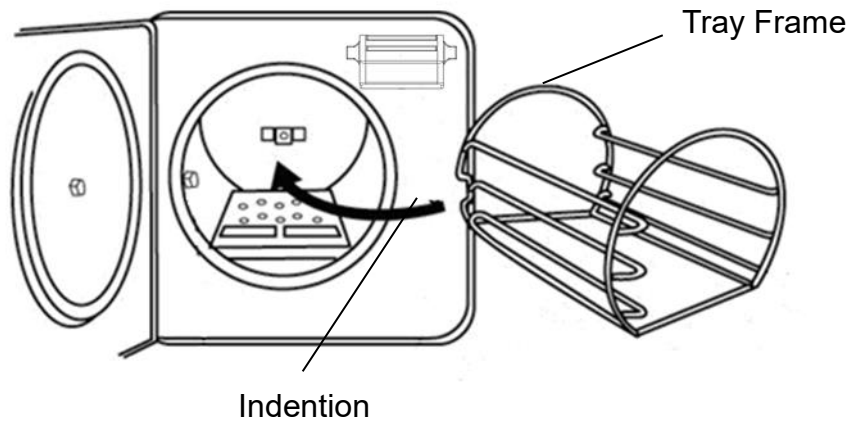

Figure 30
D. Install the tray frame as Figure 30 (optional accessory).
CAUTION: The frame should be installed as Figure 30 below. The indentation of the frame will pass the bushing in the chamber.